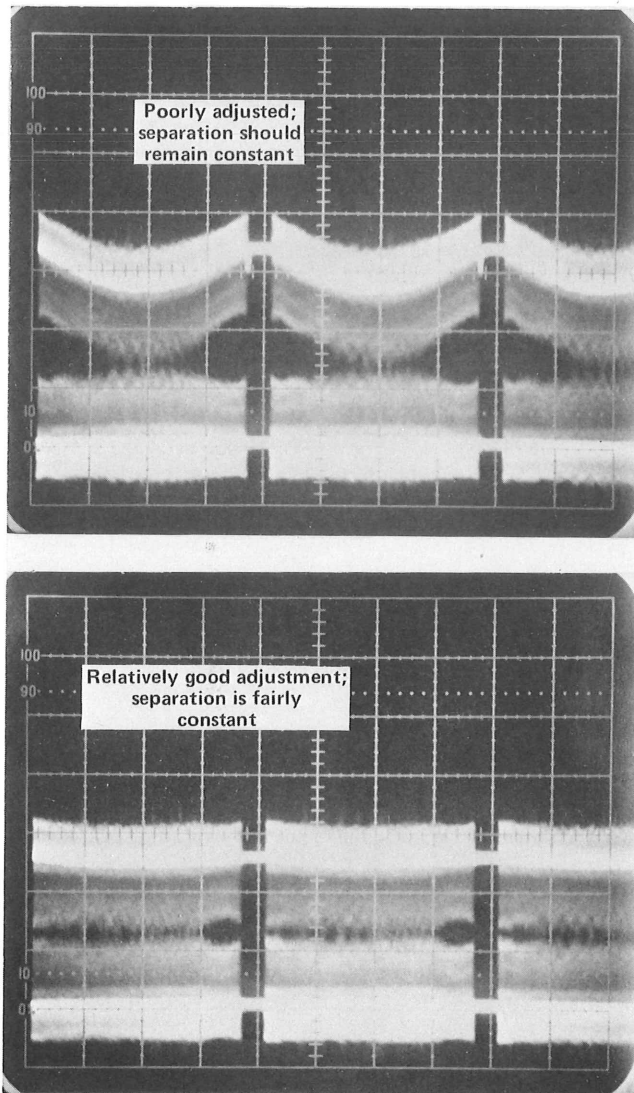

Fig. 4-18. Hard Copy Dynamic Threshold adjustment waveform. 0.5 V/division vertical; 1 ms/division horizontal.
- b. Press MAKE COPY and check for a display as in Fig. 4-18(B). The vertical separation between the pulse peaks of the two traces should remain fairly constant as the hard copy bar scans.